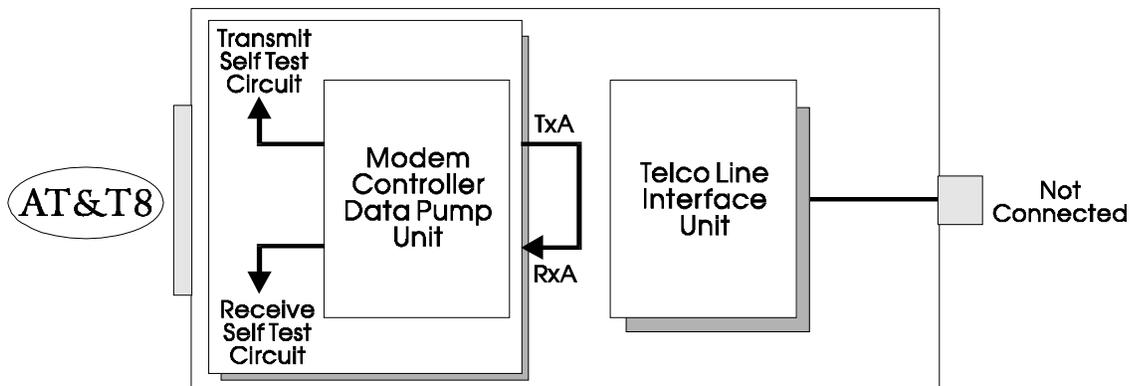

Figure 4-5. Local Analog Loopback with Self Test
- Local Analog Loopback with Self Test (see *Figure 4-5*)